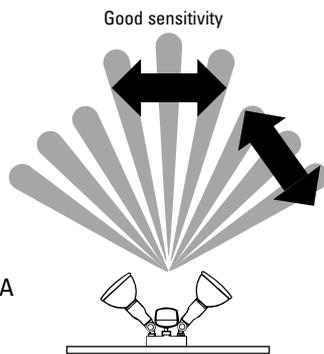
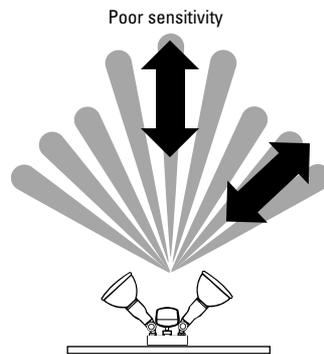

Fig. 3A
Fig. 3B
- Before selecting a place to install the Floodlight, you should note that movement across the scan area is more effective than movement directly toward or away from the sensor. (Refer Fig. 3A). If movement is made walking directly towards or away from the sensor and not across, the apparent detection range will be substantially reduced (Refer Fig. 3B).